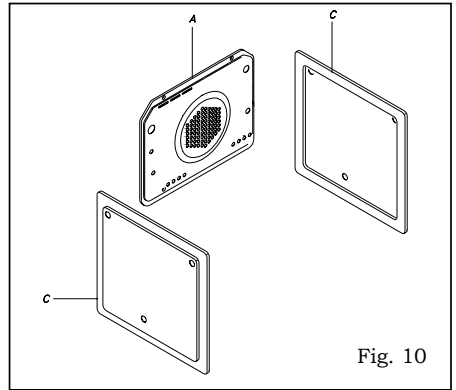

Fig. 10
**-Fig. 10**
- 1) Fix the wall (A) with four auto-tapping screws.